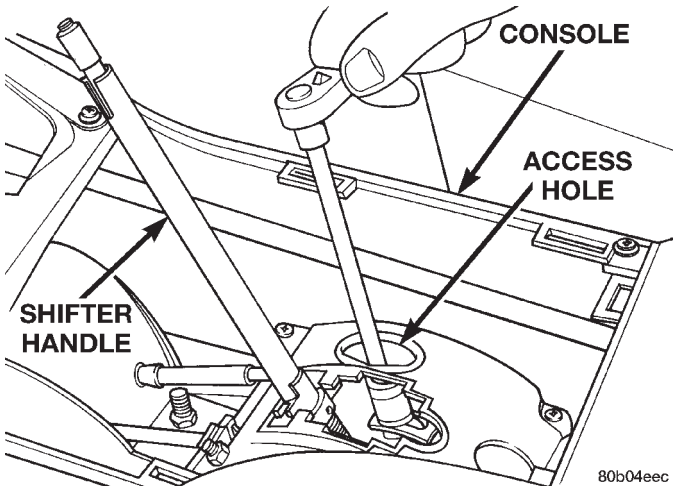

Fig. 24 Shift Cable Adjust Lever Nut
- (2) Remove console bezel from vehicle.
- (3) Loosen nut on shift cable adjust lever (Fig. 24).
- (4) Remove retaining clip from shift cable conduit bracket.
- (5) Disconnect shifter cable from cable attach stud (pin).
- (6) Remove cable from center console routing. Leave flat on floor for ease of removal.
- (7) From underhood side of dash panel unseat grommet and remove cable from interior of vehicle.